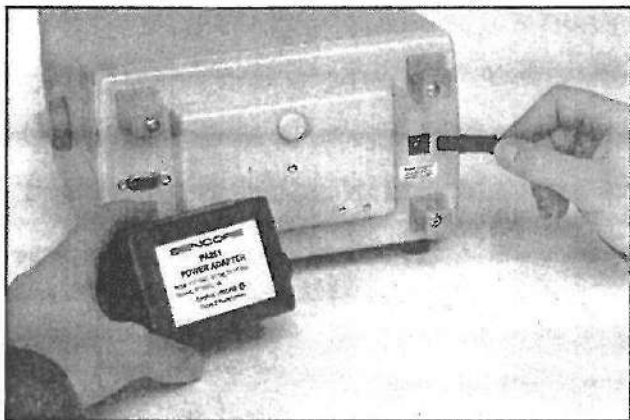

Fig. 5: Connect the PA251 to the 12 VDC input for AC bench operation and to recharge the optional battery.
2. Connect the power adapter to the POWER INPUT JACK on the back of the LC103, as shown in Figure 5.